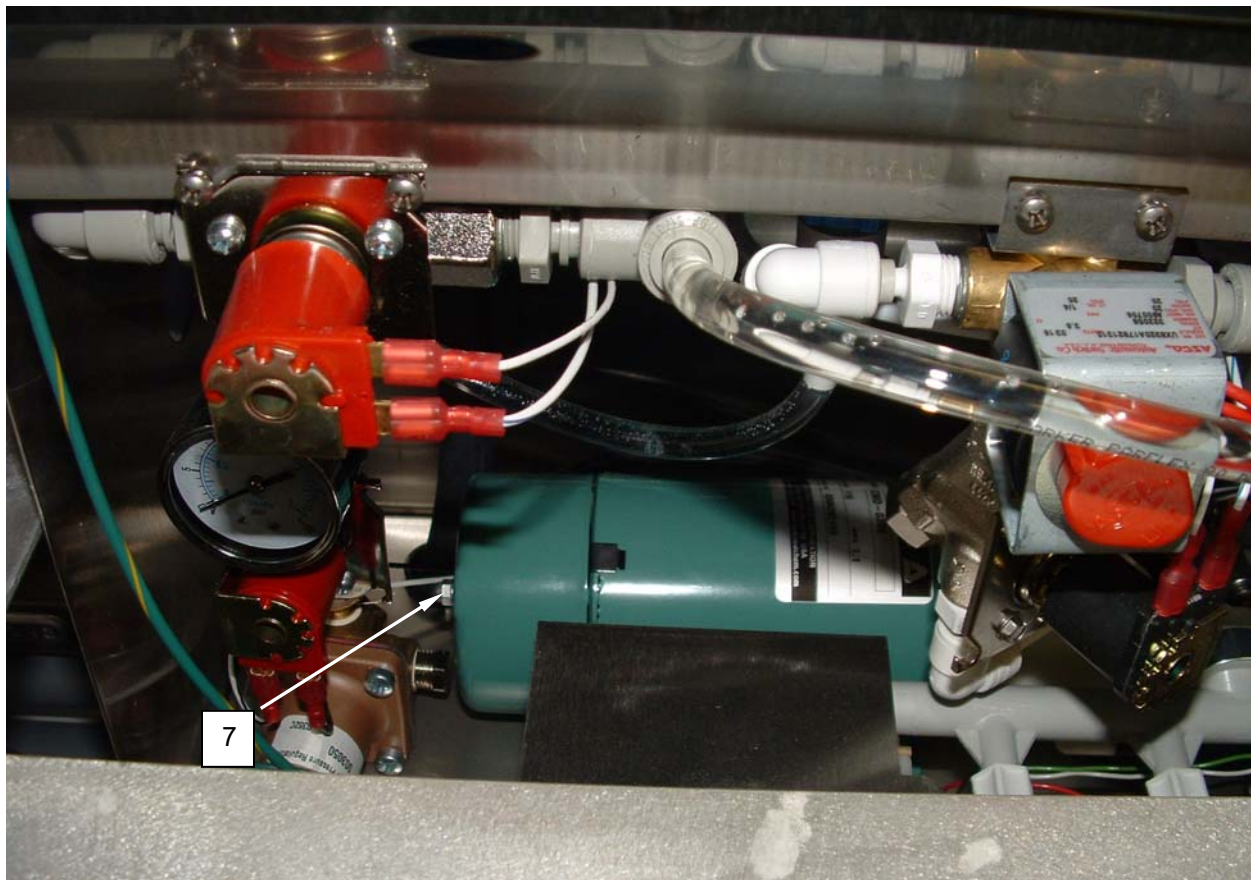

Figure 6. Replace the Pump.
2. Unlatch key lock, and remove cover (**Figure 6, Item 2**).
3. Tag and disconnect the pump (**Figure 6, Item 7**) water connections.
4. Remove the screws and nuts retaining the pump (**Figure 6, Item 7**) and withdraw the pump from the automatic soap dispenser housing.
5. Tag and disconnect the wiring from the pump (**Figure 6, Item 7**) and remove the pump.
6. Connect the wiring to the replacement pump (**Figure 6, Item 7**) as tagged.
7. Install the pump (**Figure 6, Item 7**) into the automatic soap dispenser housing.
8. Connect the pump (**Figure 6, Item 7**) water connections as tagged.
9. Secure the pump (**Figure 6, Item 7**) to the automatic soap dispenser housing with screws and nuts.
10. Install cover (**Figure 6, Item 2**) and latch.